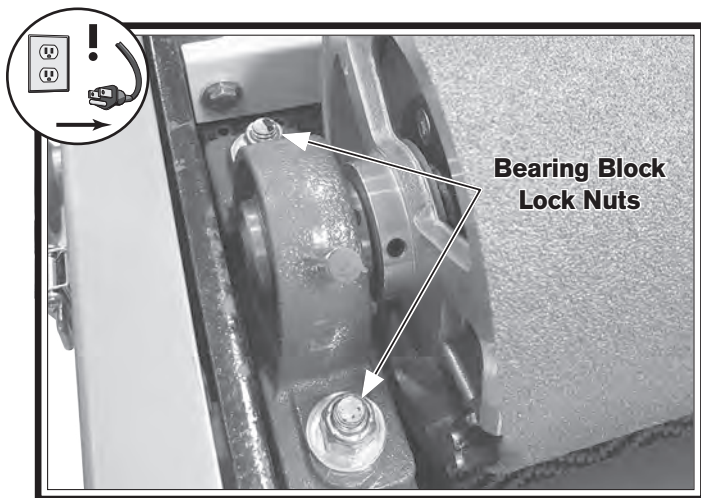

Figure 53. Bearing block lock nut locations.
3. Remove lock nut and flat washer from bearing block assembly on each side of drum (see Figure 53).